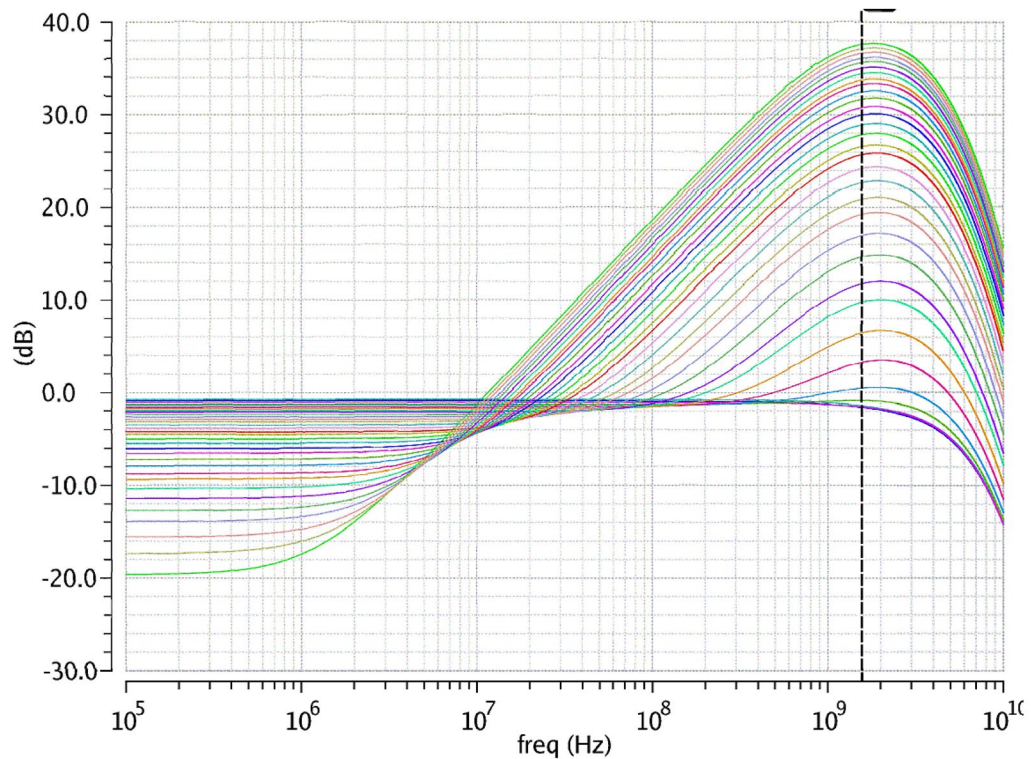

Figure 13: Receiver (RX) Post Equalization (EQ): Gain (dB) vs. Setting (Hex)
- 1) RX Equalization (EQ): See Table 11: Receiver (RX) Post Equalization (EQ) Settings + Figure 13: Receiver (RX) Post Equalization (EQ): Gain (dB) vs. Setting (Hex)